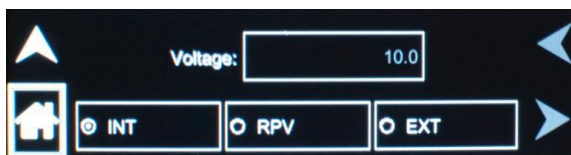

Figure 4-44. CONTROL INTERFACE Menu, ANALOG Sub-Menu
ANALOG	<p>Selects the reference that determines the output voltage waveform and amplitude; the default is INT. Refer to Figure 4-44. The options are as follows:</p> <p>INT: Selects programming of the output voltage waveform and amplitude by the internal controller reference.</p> <p>RPV: Selects programming of output voltage amplitude with an external analog interface signal, with the waveform being set by the internal controller reference. A Voltage field is provided for entry of DC input signal range: user-selectable maximum range value within 2.5 VDC to 10 VDC, for full-scale RMS of internally programmed output voltage waveform</p> <p>EXT: Selects programming of output voltage waveform and amplitude with an external analog interface signal. A Voltage field is provided for entry of AC or DC input signal range: 0V to user-selectable maximum range value within 2.5 V(PK) to 10 V(PK), corresponding to maximum range of 1.77 V(RMS) to 7.07 V(RMS), for zero to full-scale RMS output voltage; with AC waveform, from 16 Hz to 5 kHz (option dependent);</p>